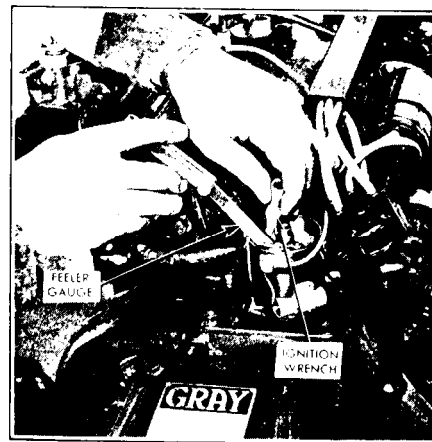

Fig. 27—Adjusting Breaker Points
4. **Adjust Breaker Points.** If these are burned or pitted they should be replaced (but can be dressed down with a fine-cut ignition file in an emergency). Never use emery cloth to clean contact points. After filing, check the breaker point gap and reset to .020", using a feeler gauge as shown in Fig. 27. Breaker arm must be resting on high point of cam during this measurement.